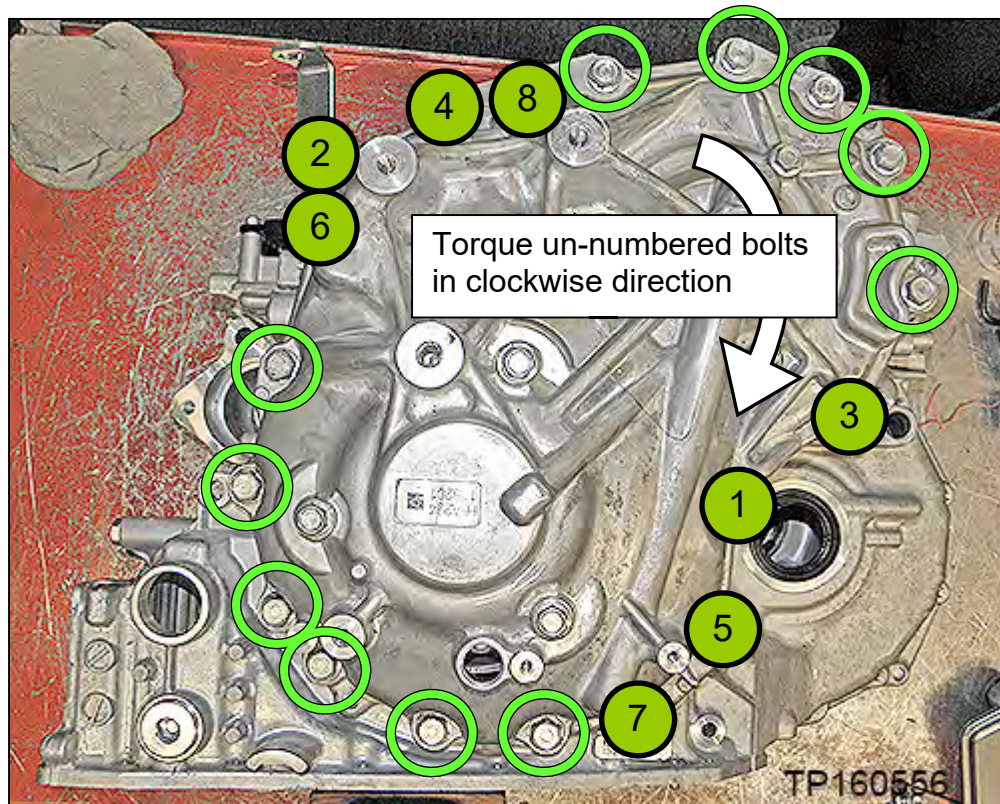

Figure 116
83. Install the new side cover bolts (Figure 116).
- Torque the first eight (8) bolts marked as ● in the sequence numbered in Figure 116 below, and then torque the rest of the bolts in a clockwise direction.